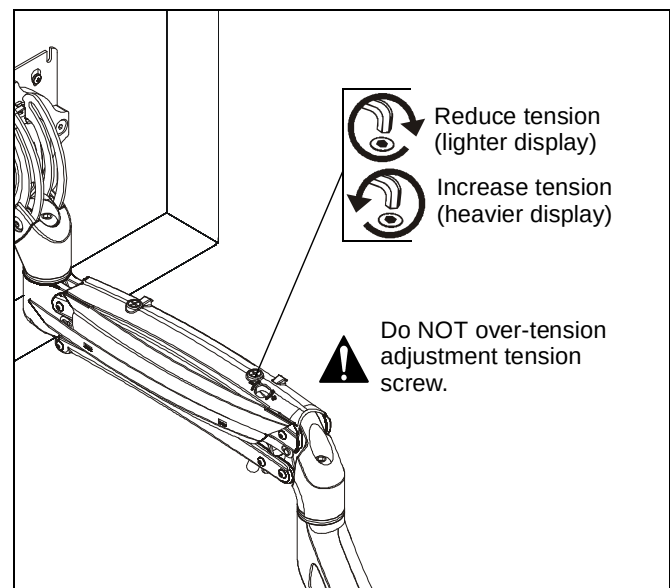

Figure 16
- Tension may also be adjusted with upper tension adjustment screw inside cable management cover and 1/8" hex key (N). (See Figure 16)